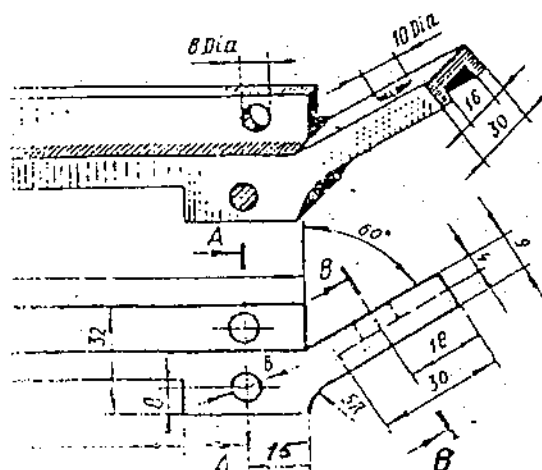

Figure 4
4. Sketch revolved section at A-A and removed section at B-B for the link as shown in figure 4. [5]